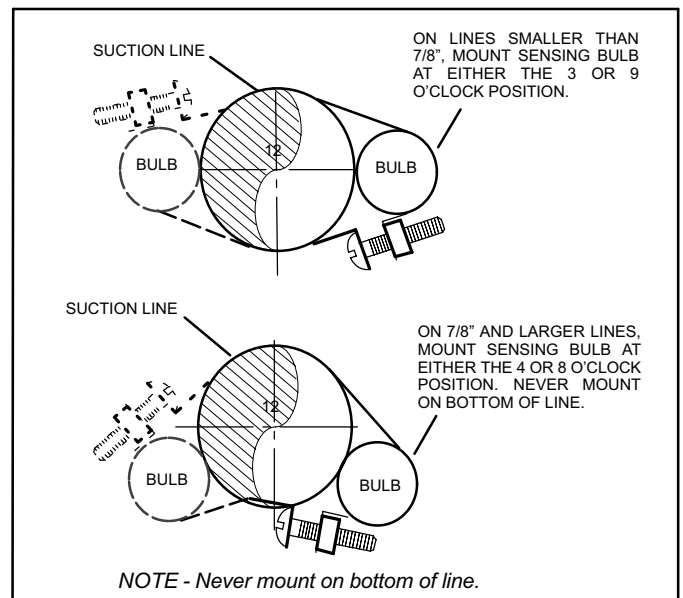

Figure 27. TXV Sensing Bulb Installation
6. Attach the suction line sensing bulb in the proper orientation as illustrated in figure 27 using the clamp and screws provided.